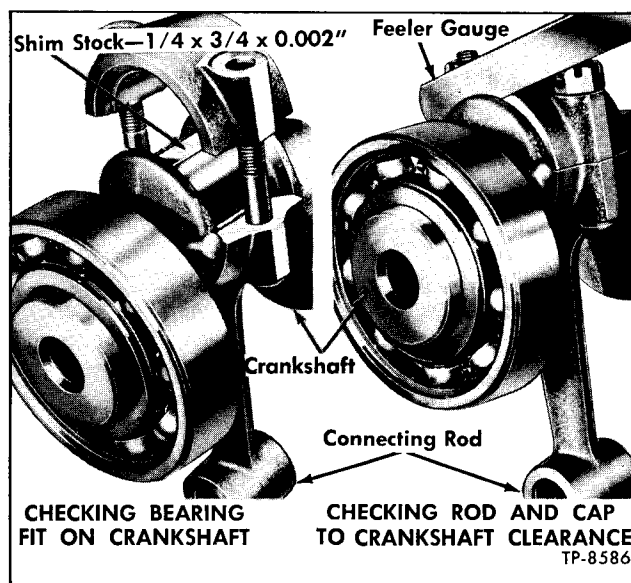

Figure 6—Checking Fit of Connecting Rod on Crankshaft
d. Examine connecting rod bearing halves for scoring, pitting, or visible wear. If damage is evident, new halves must be installed. To check fit of bearings on crankshaft, install each connecting rod with bearing halves on crankshaft journal from which they were removed, using a 1/4 x 3/4-inch piece of 0.002-inch brass shim stock between bearing journal and bearing half (fig. 6). Tighten connecting rod bolt nuts to 5 to 8 foot-pounds torque. If bearing fit is correct, the 0.002-inch shim should lock the bearing on the journal. Check clearance between side of connecting rod and cap and cheek on crankshaft (fig. 6). If clearance exceeds 0.006-inch, new rods and caps must be used.